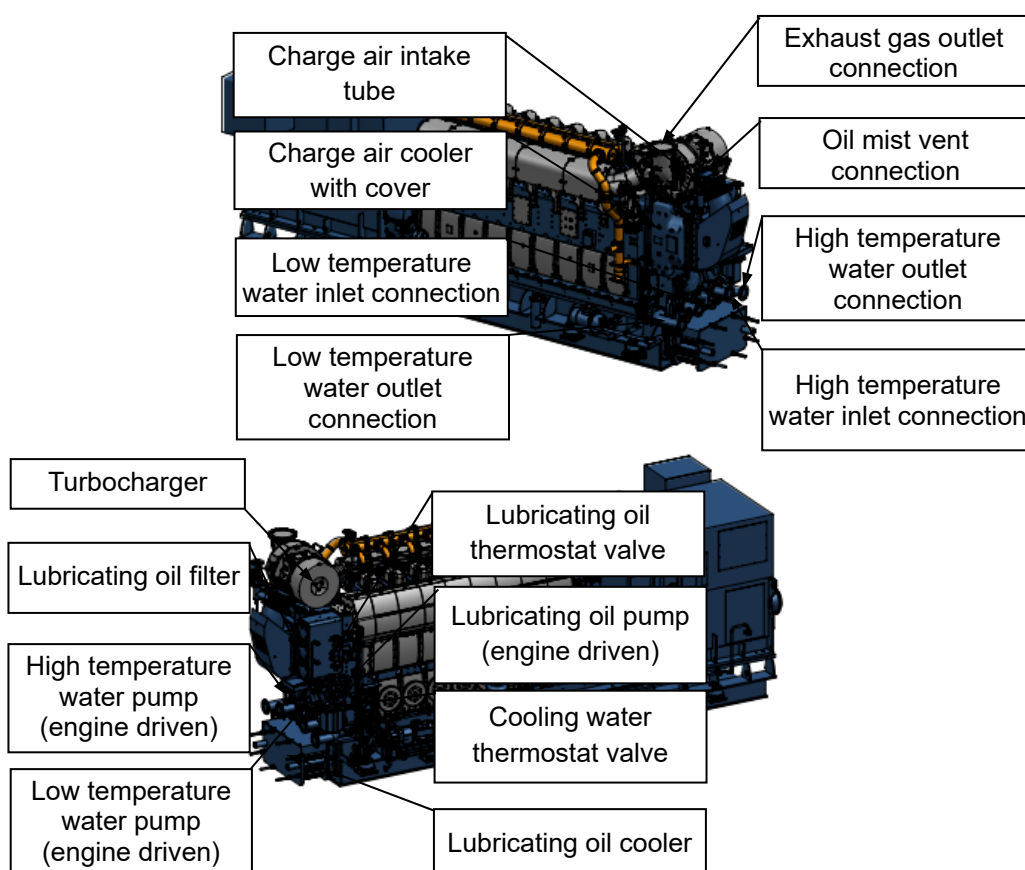

Figure 2.4 Outline of feed module
- ✓ All the components of the system, for example, pumps, valves, filters and coolers are mounted on feed block without any pipe connection, which provides direct accessibility with fewer parts for easy maintenance as shown below Figure 2.4.